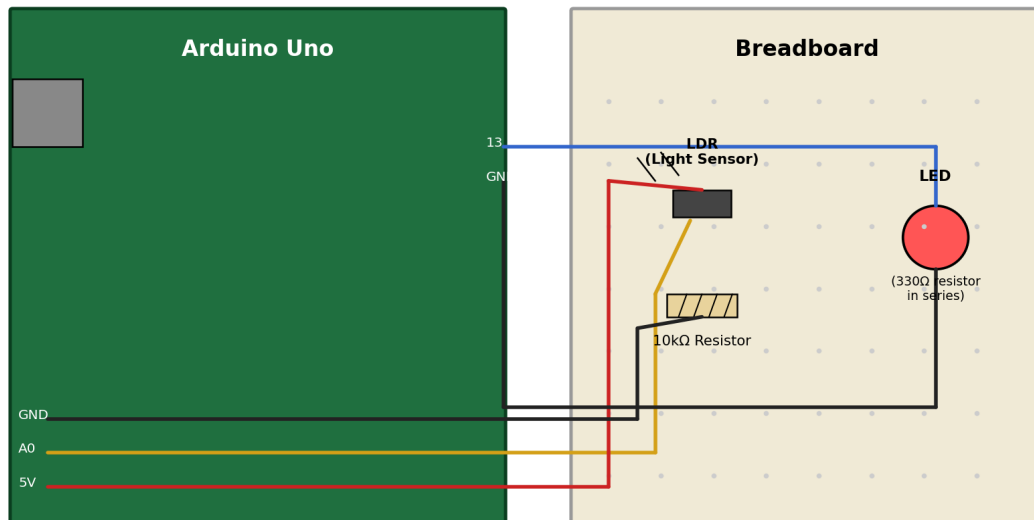

Figure 1: Circuit wiring diagram — LDR voltage divider feeding A0; LED driven from pin 13.
- 2 Click the "Pick Devices" button (P) on the left toolbar. Search for and add: ARDUINO UNO R3, LDR, RES (x2), and LED-RED to your parts list.
- 5 Wire the components exactly as shown in Figure 1 and the Wiring Connections Summary in Section 4: 5V to LDR, LDR junction to A0 and to the 10k resistor, 10k resistor to GND, pin 13 through 330R to the LED anode, and LED cathode to GND.